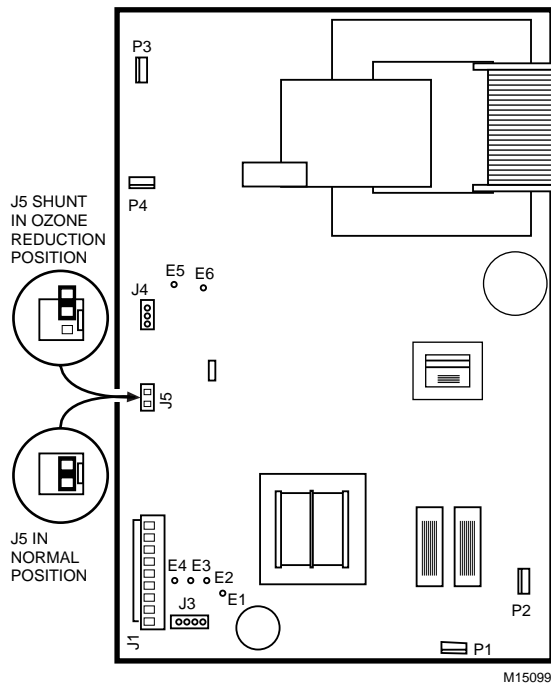

Fig. 8. Move J5 shorting bar to reduce ozone production about 20 to 25 percent.
- d. Locate J5 shorting bar on the power supply. See Fig. 8. Remove the shorting bar and reinstall on only one pin.